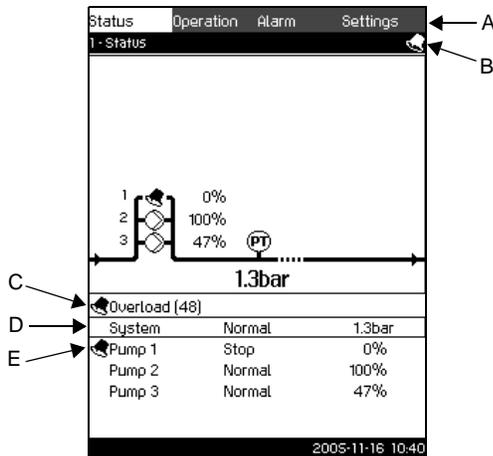

Fig. 7 Display design
The menu line (A) is illustrated in fig. 7.
The top line (B) is illustrated in fig. 7.
- the status of alarms (see C in fig. 7)
- the system (see D in fig. 7) and
- the pumps (see E in fig. 7).